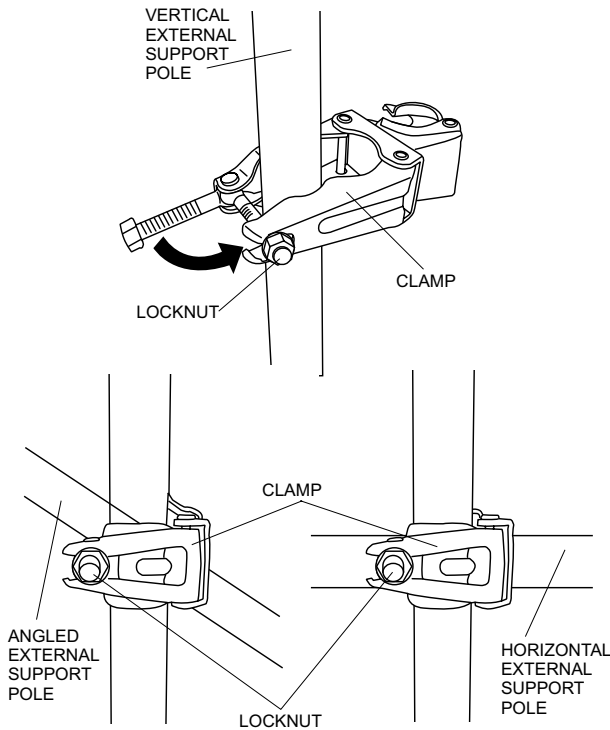

Figure 27. Clamp Attachment
1. Attach one of the clamps that come with the GBS to the external support pole. The clamps may be attached to vertical, horizontal, or angled pole. See Figure 27.